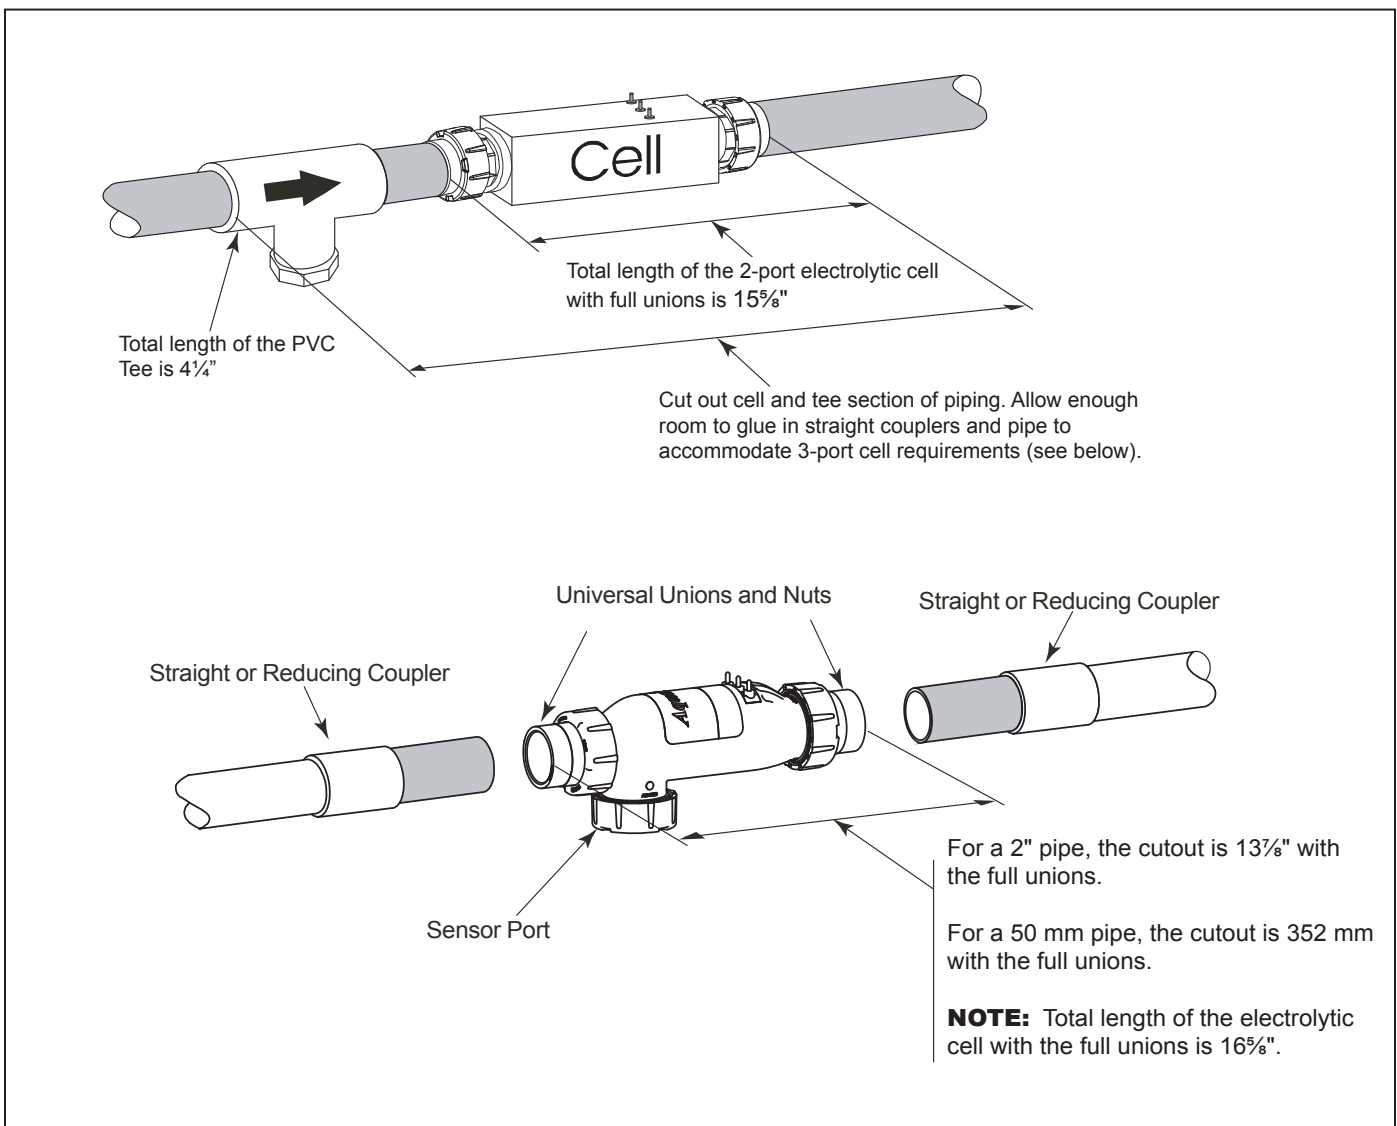

Figure 13. Pipe Cutout (Option 3 - Replace 2-Port Cell and Piping and treat as New Installation)
- a. Cut out section of pipe that contains cell, sensor, and fittings. Glue straight couplers or reducing coupler onto open ends of piping. Make sure to leave enough length to fit in new cell (see Figure 13).